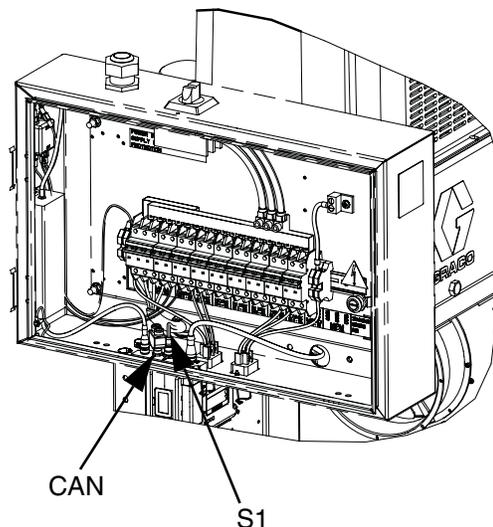
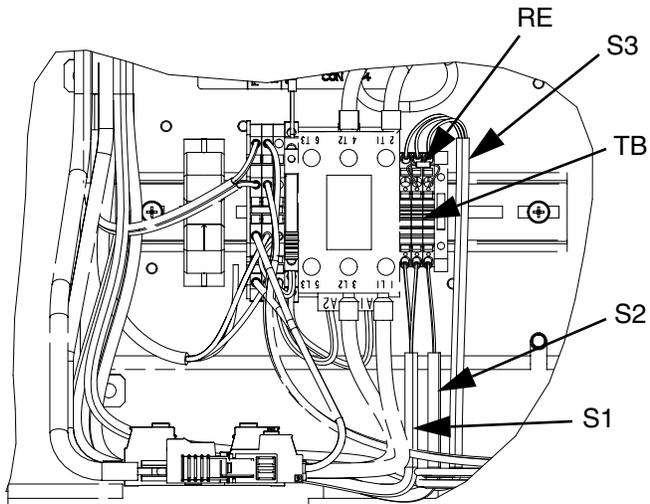
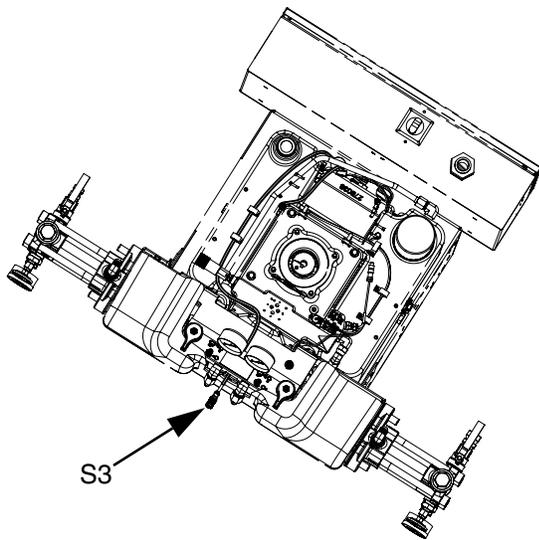

FIG. 17
FIG. 18
FIG. 19
NOTE: If the electrical cable is not present at the fluid manifold as shown in FIG. 19, kit 24K659 is required.
4. Route signal harness 16K788 (S1), marked 24VDC PWR, to the Power Distribution Box and connect to the CAN extender block (CAN) located on the base of the Power Distribution Box. See FIG. 17 and FIG. 18.
5. Connect signal harness 16K789 (S2) (single conductor cable) to the MCM cable labeled 7B. Route the cable through the cube base and connect to the terminal block (TB) as shown in FIG. 18.
6. Route GX-16 Proximity sensor harness 16K790 (S3) under the HFR outlet manifold, FIG. 19, through the cube base and connect to the terminal block (TB) as shown in FIG. 18.
7. Verify the installation of the resistor 105850 (RE) as shown in FIG. 18.